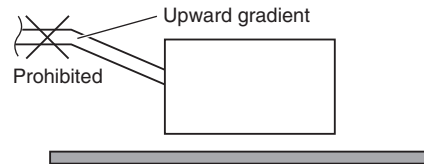

Fig. 3-46
- Do not install the pipe with an upward gradient from the connection port. This will cause the drain water to flow backward and leak when the unit is not operating. (Fig. 3-46)